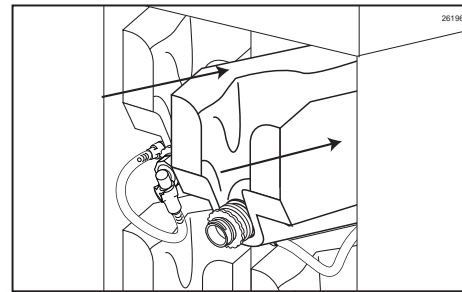

Figure 46
9. Make sure the syrup bag is settled neatly into the tray, and then install the loaded tray into the cabinet. (See Figure 46.)